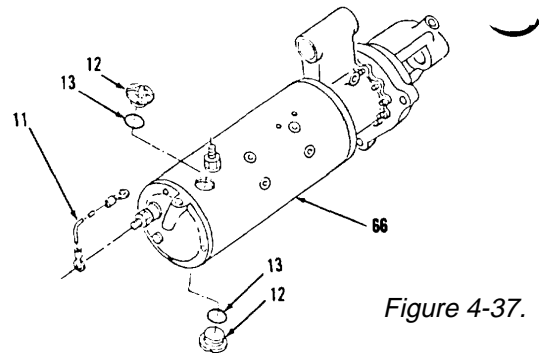
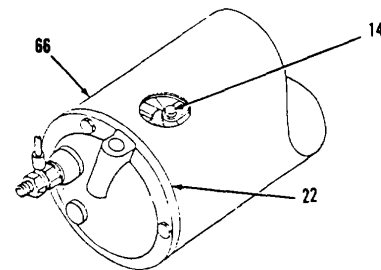

Figure 4-37.
Figure 4-38.
5. Disconnect wire assembly (11, Figure 4-37).
6. Remove two plugs (12) and seals (13) from housing (66). Discard two seals (13).
7. Remove two screws (14, Figure 4-38).